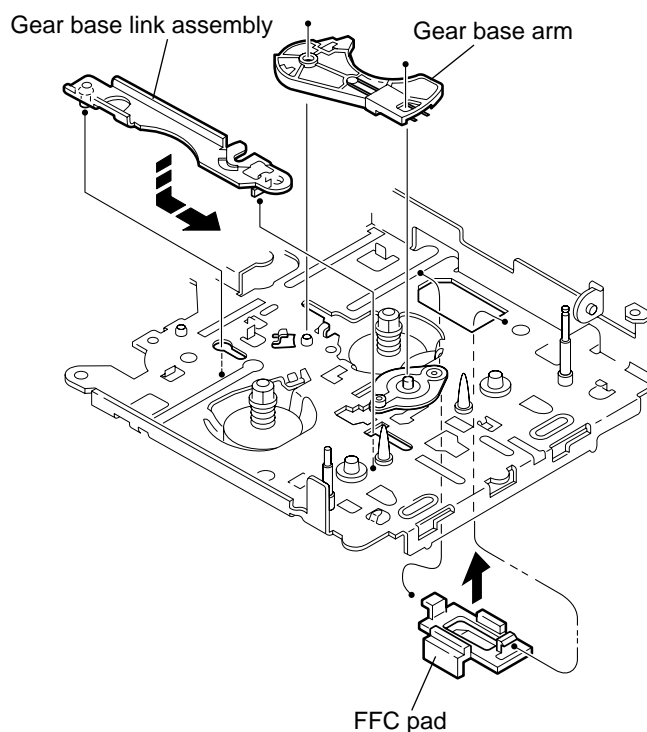

Fig.27
■ Removing the FFC pad (See Fig.27 and 29)